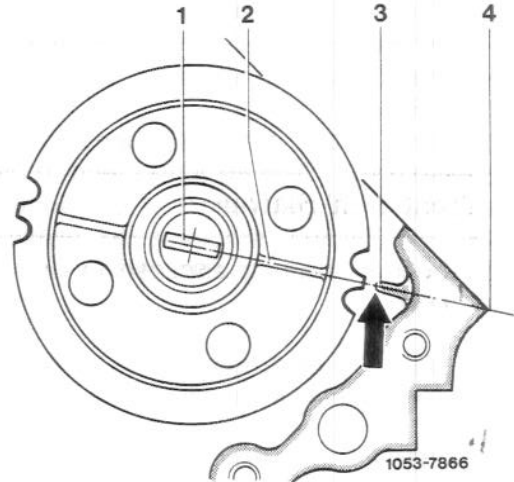

Figure 9
32. With piston number one still positioned at ignition TDC, install the new timing chain together with the camshaft sprockets while matching up all paint dots on chain and sprockets. The mark (2) on the distributor drive sprocket and the lug (3) on the crankcase must also be aligned for proper ignition timing (Figure 9).